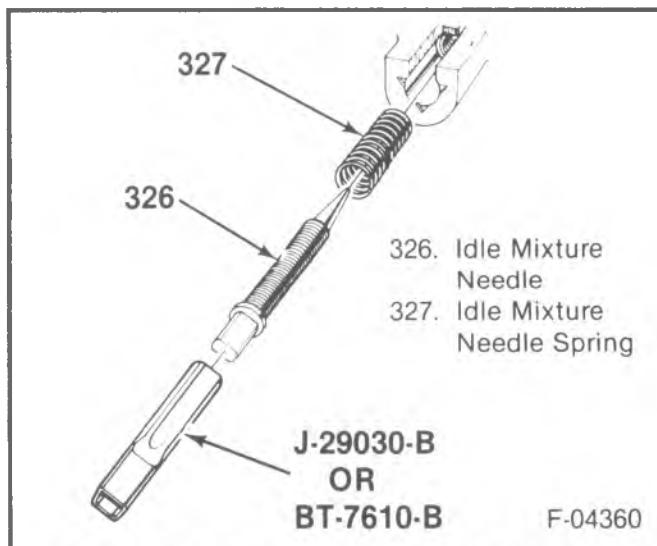

Figure 25 – Idle Mixture Needle and Spring
- ↔ Remove or Disconnect (Figure 25)**
(Figure 25)